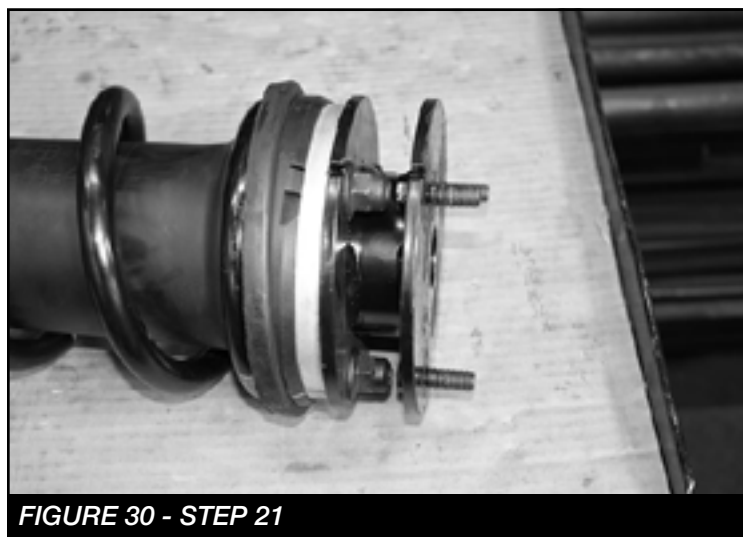

FIGURE 30 - STEP 21
21. Install FT20801 (Coilover spacer) onto the factory strut using the factory hardware. Torque to 68 ft-lbs. **SEE FIGURE 30**